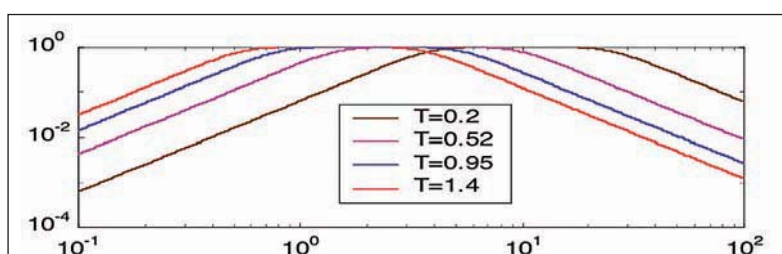

Figure 2: Frequency characteristics of the digital band-pass transfer function and its associated analogue versions for different T values
Frequency characteristics of the digital and associated analogue band-pass TFs are illustrated in **Figure 2**. In the same figure, four frequency characteristics of associated analogue TFs obtained by using the conversion matrices given in (20) for $T = 0.2$, $T = 0.52$, $T = 0.95$ and $T = 1.4$ are plotted.